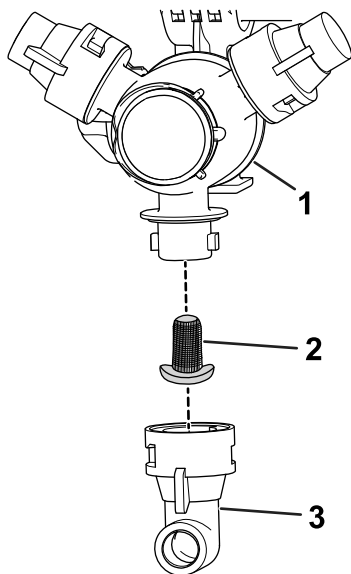

Figure 91
3. Remove the nozzle filter (Figure 91).
5. Install the nozzle filter (Figure 91).
6. Install the nozzle onto the spray turret (Figure 91).
2. Remove the nozzle from the spray turret (Figure 91).